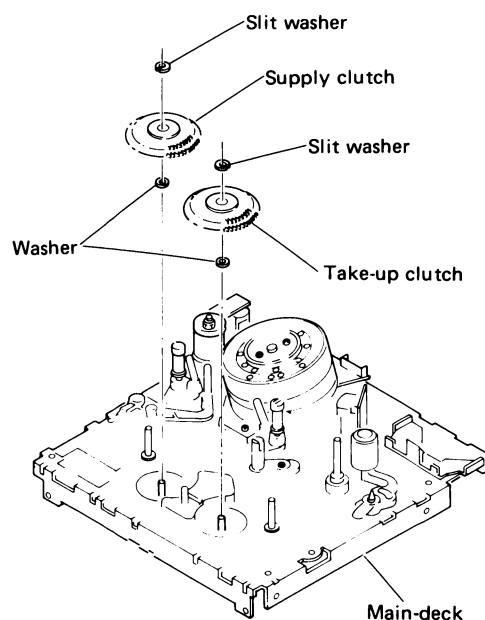

Fig. 2-13 Take-up and Supply clutch replacement
2.3.8 Clutches (See Figure 2-13.)